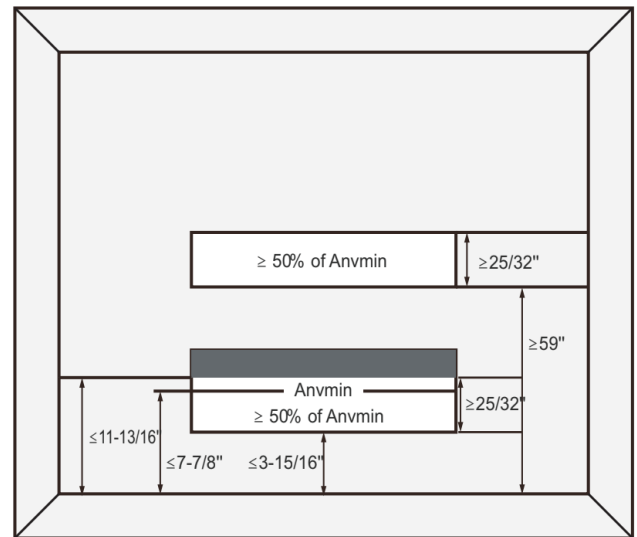

Figure 4-1
1. The opening should not be less than Anv_{min} in Figure 4-1.